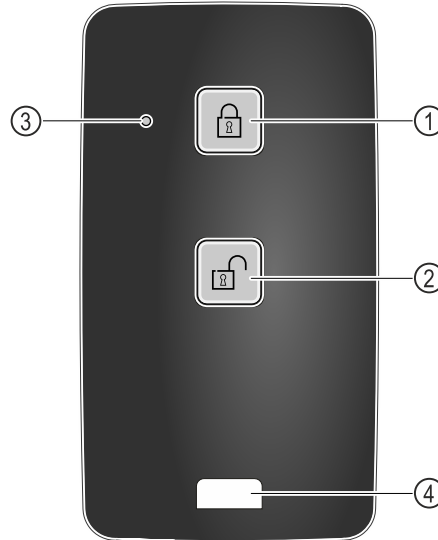

Fig. 147
- (1) Engage lock
- (2) Unlock lock
- (3) Status LED
- (4) Fastening eyelet
- ▶ Press button Fig. 147 (1) on the remote control.
- ▶ Press button Fig. 147 (2) on the remote control.
- ▶ Status LED Fig. 147 (3) provides a visual acknowledgement when you press the button.
- ▶ Eyelet Fig. 147 (4) for attaching remote control, for example, to a key ring.